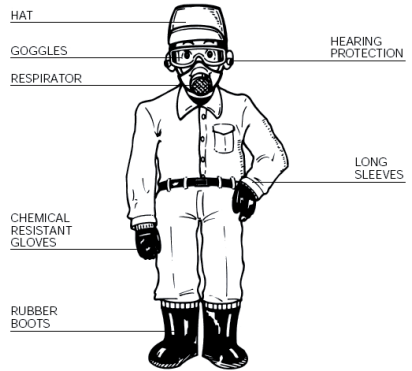

Figure 8
## 1. Protective clothing (Fig.8)
- (1) Mental patients.
- (2) Drunk.
- (3) Under age or old person. Fig.8
- (4) Person with no knowledge of the machine.
- (5) Dog-tired person or patient and others who can not operate the machine normally.
- (6) Person who have just exercised strenuously or slept not enough.
- (7) Women giving the breast to baby or being pregnant.